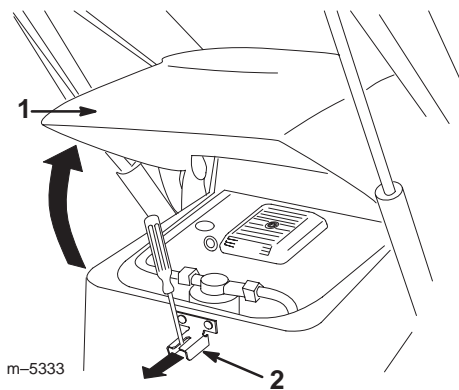

Figure 18
1. Using a screwdriver, pull out the hood latch (Fig. 18).
2. Swing the hood up until it locks open (Fig. 18).